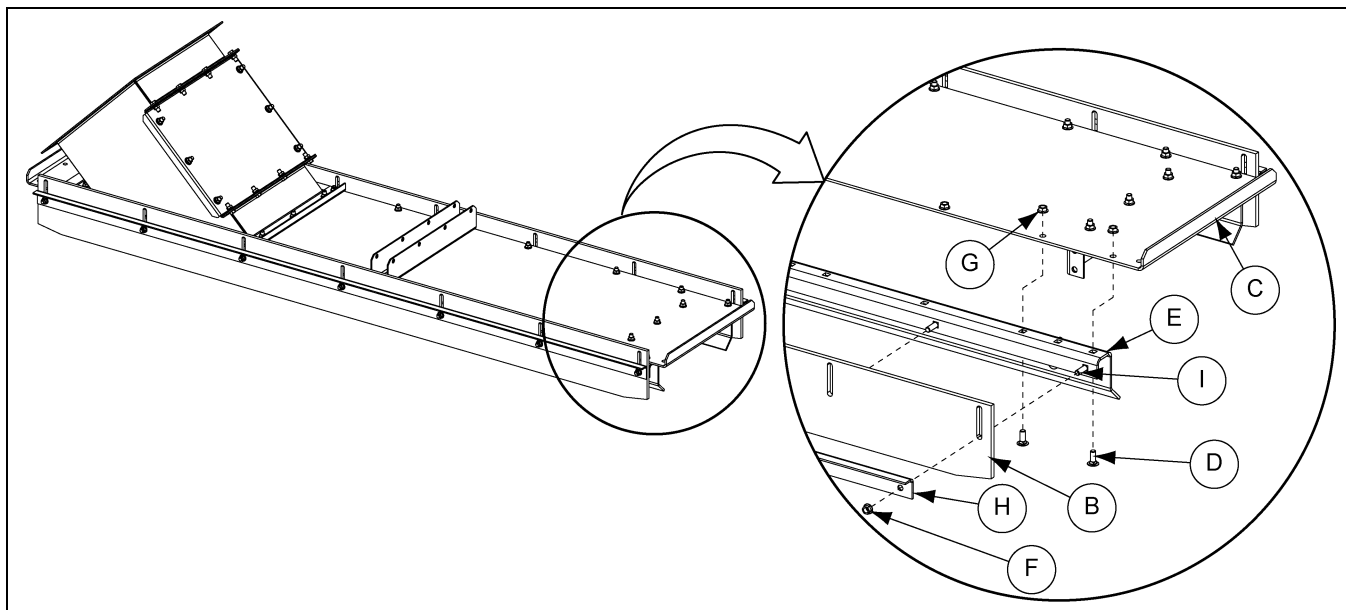
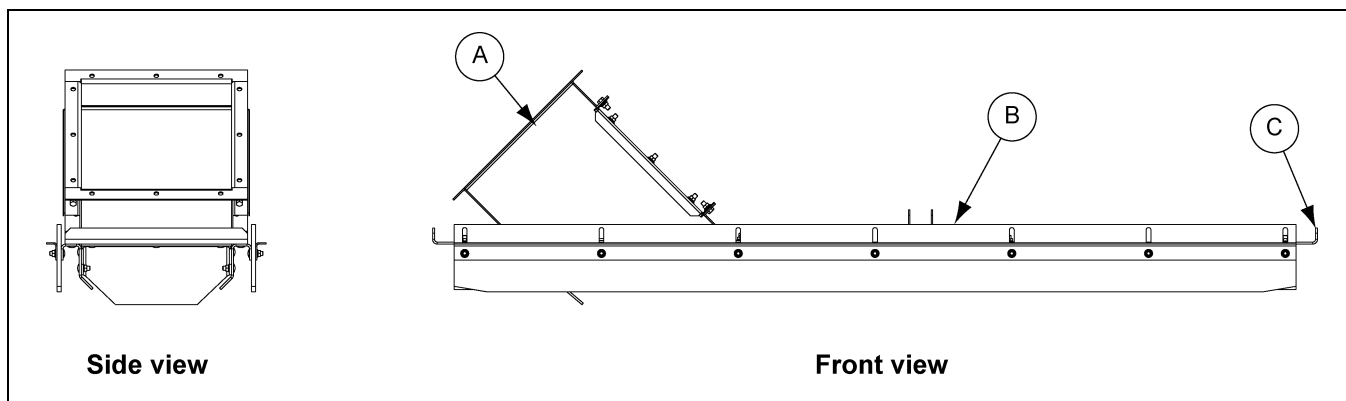

Figure 4E
Figure 4F
The skirts prevent the side spillage of material and keep the load centered on the belt. The skirts (B) are adjustable and can be set to lightly touch the conveyor belt. The skirts are shown mounted along the side back of the loader (A). (See Figure 4E and Figure 4F.)